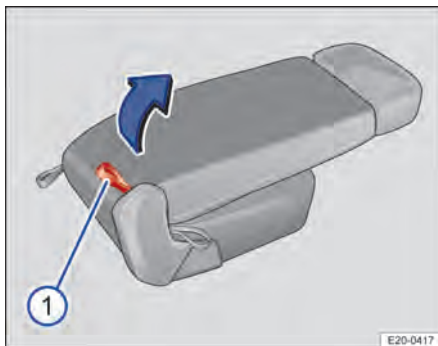

Fig. 71 Second row of seats: Fold seat forward.
2. Pull the corresponding red loop → Fig. 71 ① on the back of the seat and fold the seat forwards.